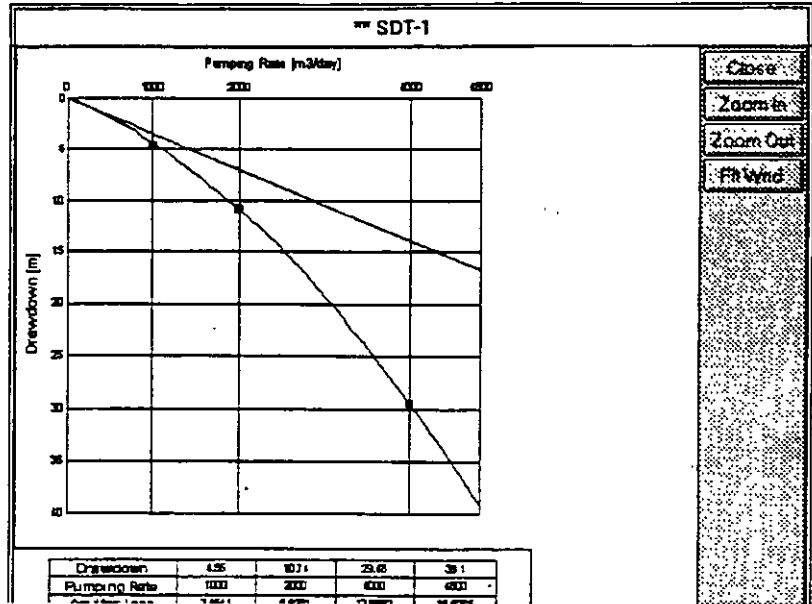

Figure 11-12
11. Select **Display**. The display will look as shown in Figure 11-12.